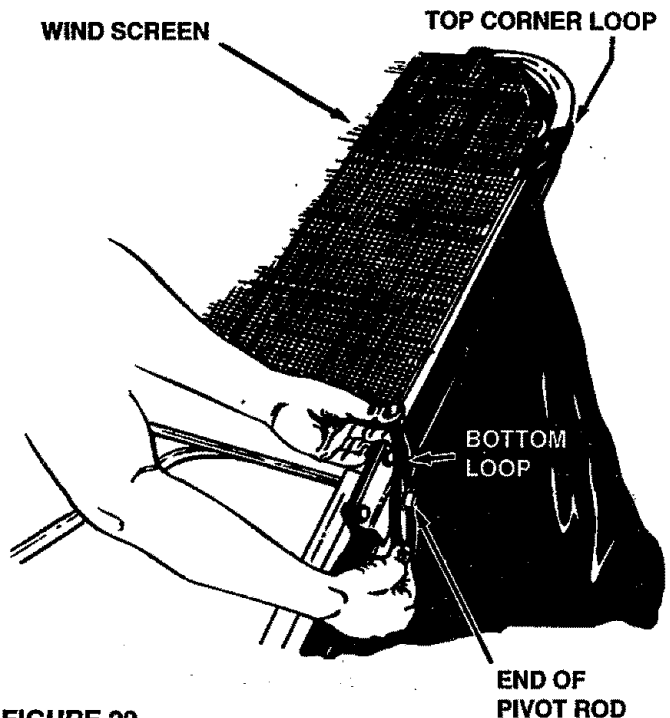

FIGURE 22
- Assemble the wind screen to the hopper bag frame by hooking the bag's top corner loops over the upper hopper tube and then pulling the bag's bottom loops down over the ends of the pivot rod. See figure 22.